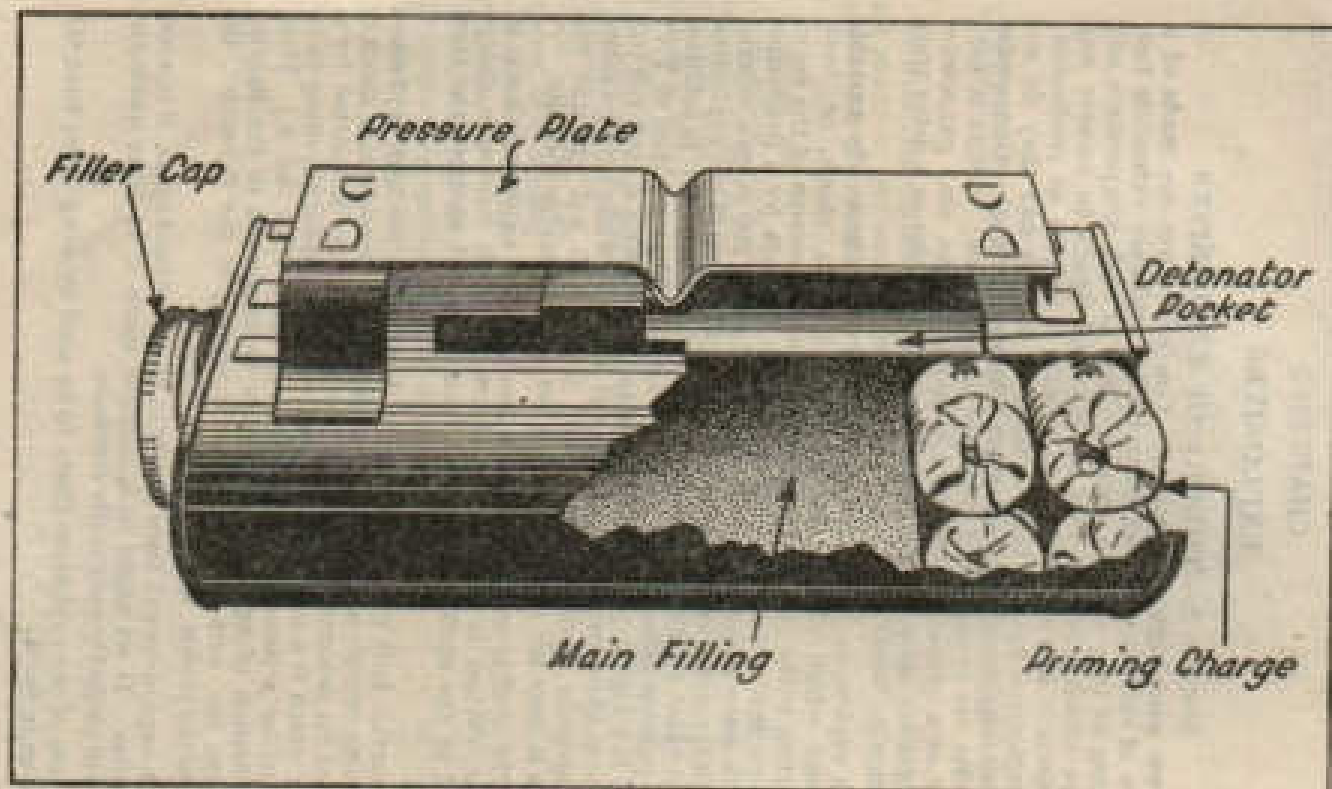

Fig. 1. 75 grenade Mark 1, sectional view
1. No. 75 grenade (See Fig 1)
(a) *Description.*—This is a screw cap metal container filled with 1½ lb of RE with a special primer inside the container at the opposite end to the screw cap (see Fig 1). On top of the container is a pressure plate with special pockets underneath for the detonator and igniter sets used when the grenade is employed as an anti-tank mine (see Military Training Pamphlet 40, Part 1). Twelve grenades are packed in a tin box with 24 detonator and igniter assemblies.